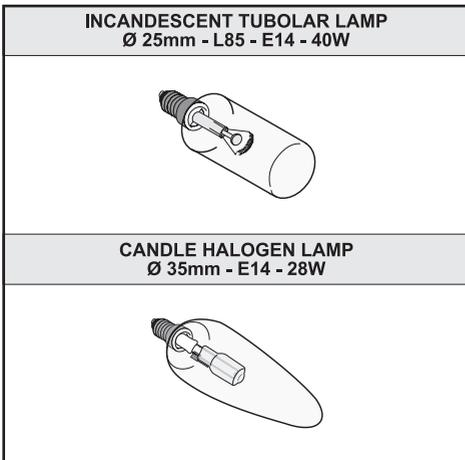

Fig.8
• **Replacing the halogen/incandescent lamps (Fig.8):**